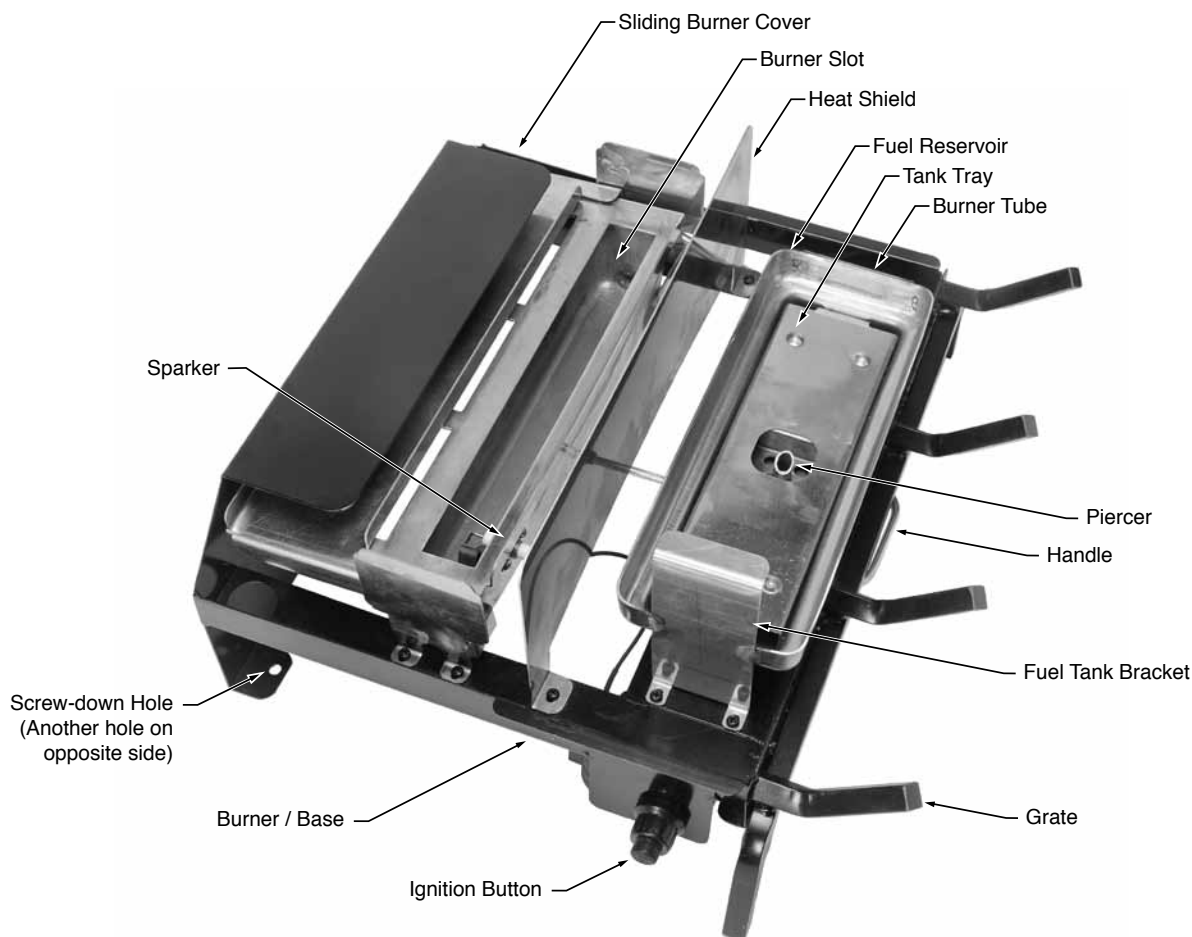
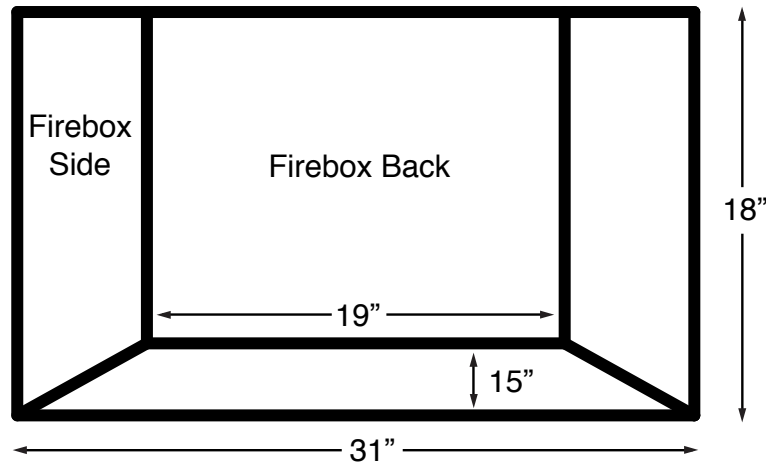

Figure 1
Figure 2
- The burner / base (Figure 1)
4. Check the firebox dimensions to ensure that they are at least equal to the minimum dimensions shown in Figure 2. The minimum clearances that the appliance originally required will be adequate for this installation. You will need the two (2) $\frac{1}{4}$ " x $1\frac{1}{2}$ " masonry screws provided for this step. Place the burner / base in a solid-fuel-burning masonry fireplace, a UL127 factory-built fireplace, or an approved (to ANSI Z21.92) ventless firebox, centered left to right on a level surface. When it is positioned properly, mark the screw locations through the screw-down holes in the back legs of the base (see Figure 1). If you are installing the appliance in a brick-bottomed fireplace, mark the screw locations in a mortar joint between the bricks. Remove the appliance, and drill holes at the marked locations using a $\frac{3}{16}$ " masonry drill bit. Replace the appliance, and attach it to the fireplace floor using the masonry screws.
8. Next step is to install the battery into the igniter. The igniter is on the left side of the appliance towards the front just under the front log (see Figure 1). The button and front cover of the igniter twists off (see Figure 1). Twist the front off, install the battery and twist the front back on. Push the button and you should hear the sparker creating the sparks. If you do not hear or see the sparks, you either have a dead battery or you did not install the battery properly. If after remedying both issues the sparker still does not create a spark, contact the installer, the store where you purchased the product or Duraflame, Inc.